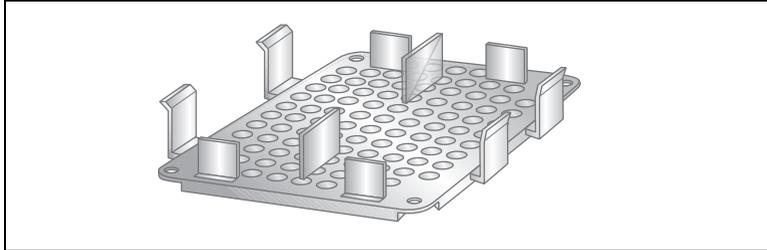

Figure 2 *Installing the Microplate Platform*
2. Unscrew all four posts from the outside of the lower platform (see Figure 2).